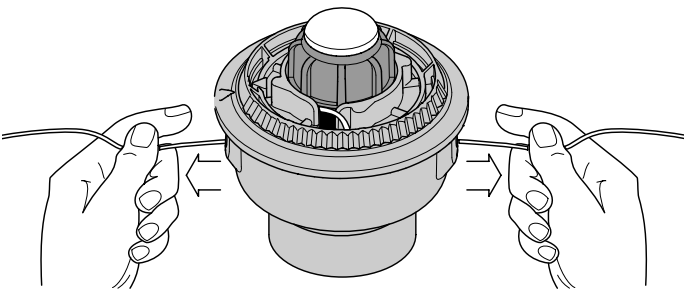

Fig. 19
9. If winding the line becomes difficult or the line jams, pull the ends of the line from the spool (Fig. 19). Continue winding the inner reel counterclockwise.
4. Hold the inner reel in place and install the bump knob, spring and foam seal. Press down and turn the bump knob clockwise. Grasp the ends and pull firmly to release the line from the holding slots in the inner reel (Fig. 19).
If the SpeedSpool® does not release line correctly, pull the ends of the line firmly from the spool (Fig. 19). If this does not release the line, follow the *Cleaning the SpeedSpool®* instructions.